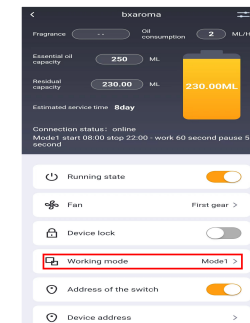

Figure 14
- (1). Click [working mode] in the equipment operation interface (Figure 14).